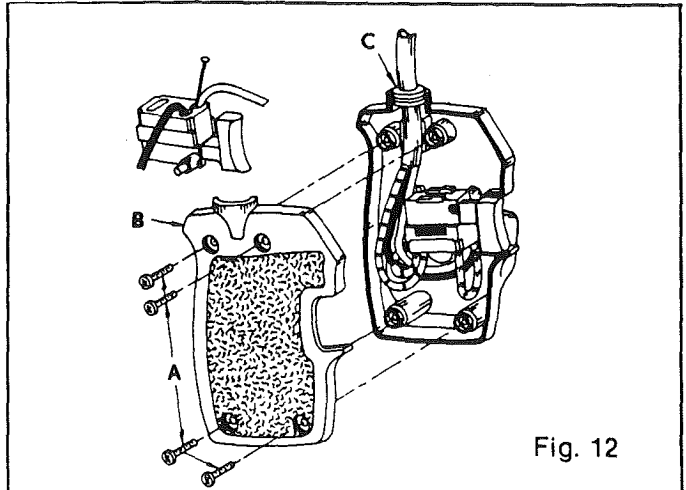

Fig. 12
1. Remove screws (A) and handle covers (B). See Figure 12.
2. Note location of grommet (C) in handle and how each lead is connected to switch.
3. Remove leads from switch by inserting a 1/32" diameter pin or nail into switch lead receptacle as shown in figure 12 and pulling on the lead.
4. Make sure grommet (C) is on cord and push each lead as far as possible into proper receptacle in switch.
6. Make sure grommet (C) is in place and replace handle cover and screws.